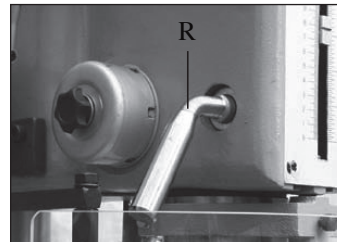

Fig. 7
1. Simply rotate the quill lock handle (R-fig.7) until tight.